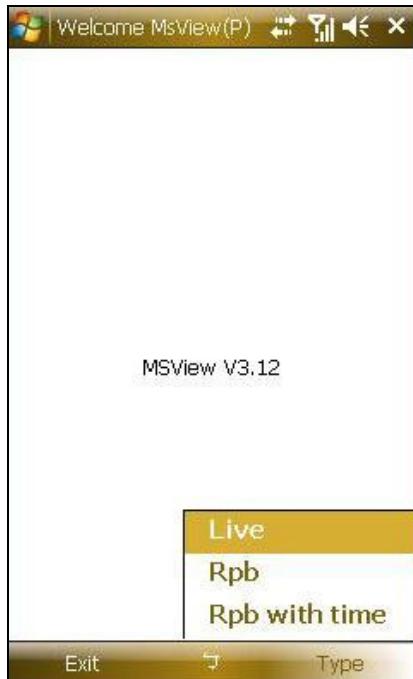

Figure 8-65
- Click **Type** and then select **Rpb** (see Figure 8-65). If you want to search the recordings within a specific period of time for playback, select **Rpb with time**.